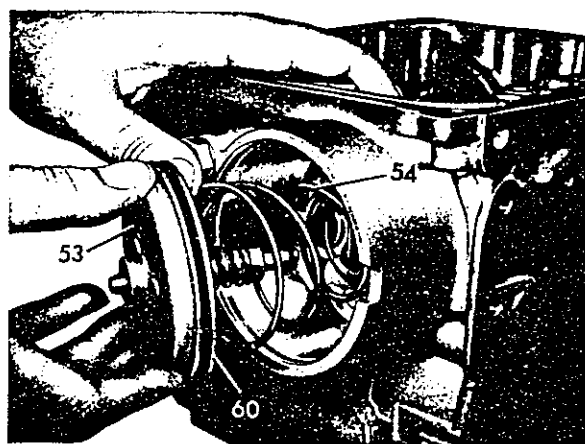

Fig. 28
3 Install brake band piston B 3 (53) into transmission case, using a new lip seal ring (60) and compression spring (54) Fig. 28